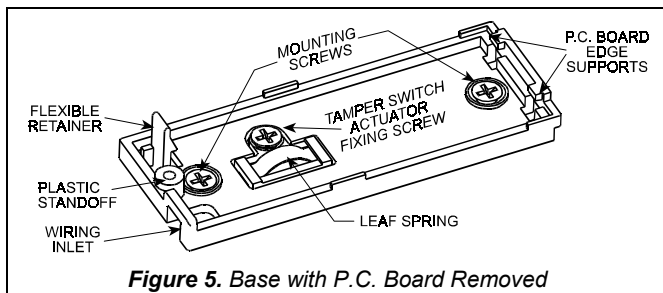

Figure 5. Base with P.C. Board Removed
**Attention!** The MCT-302T carries an additional tamper switch under the board. This switch is actuated by a leaf spring, mounted on a small base segment that is loosely connected to the base (see Figure 5).